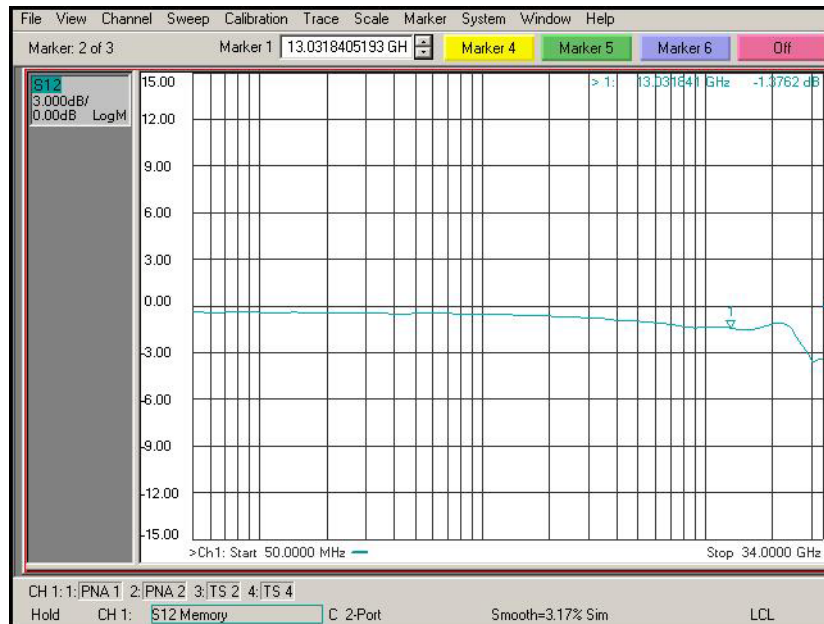

Figure 96 De-Embedded V_{in} Trace
- 10** Trigger the VNA to perform a single sweep. Press “Trigger” under Channel Setup, and then the green soft-key for “Single”. Display should look like **Figure 96** on page 123. If it looks noticeably different, the probe tip wires may not be making contact under the pincher.